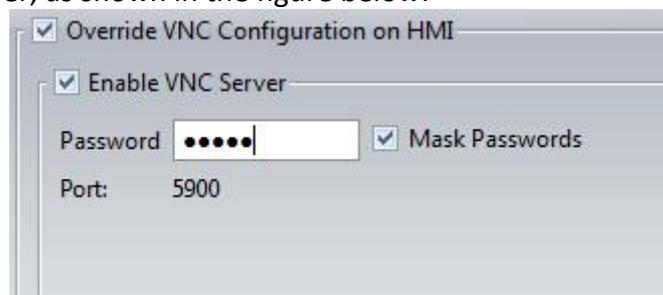

Figure 170 VNC Server Setting-Project
1. Create a new project and set the settings in the **【 VNC 】** tab page of the **【 Server 】** setting screen as shown in **Figure 170 VNC Server Setting-Project**.